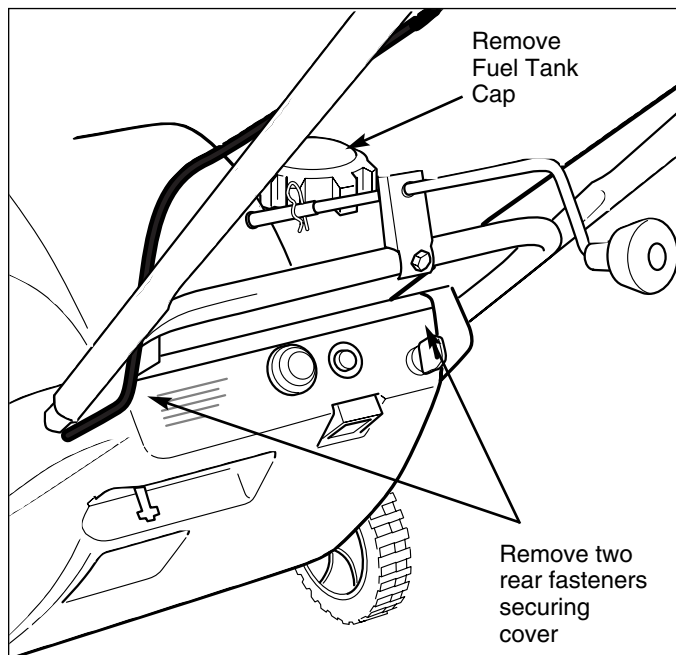

Figure 12. Remove and/or Loosen Cover Screws
2. Remove the two rear fasteners securing the back of the cover housing. (Figure 12).